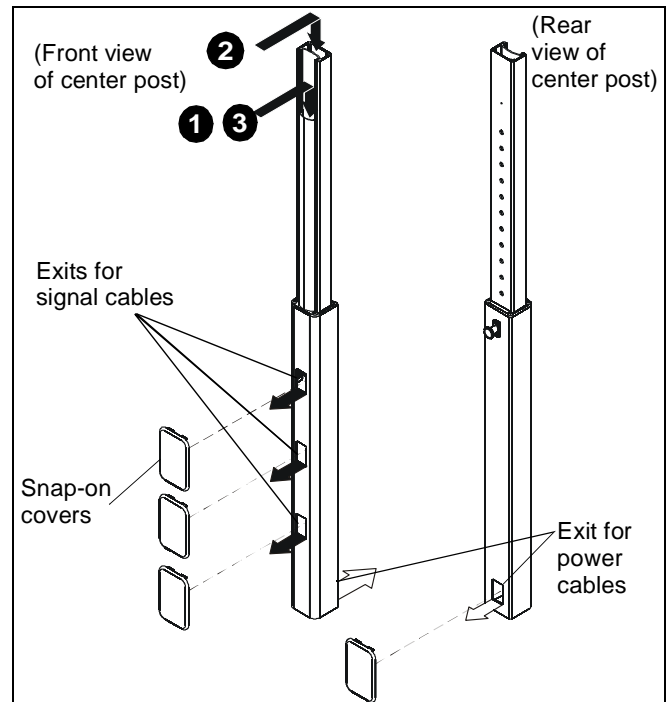

Figure 10
1. Signal cables can be run down the front flap of the center post and out the front of the post at any of the openings. (See Figure 10)
2. The display power cord can be run through the top and down through the post to exit out the back. (See Figure 10)
3. Any accessory power cords can be run through the front and down through the post to exit out the back. (See Figure 10)
4. Install the snap-on covers to any opening that is not being used. (See Figure 10)